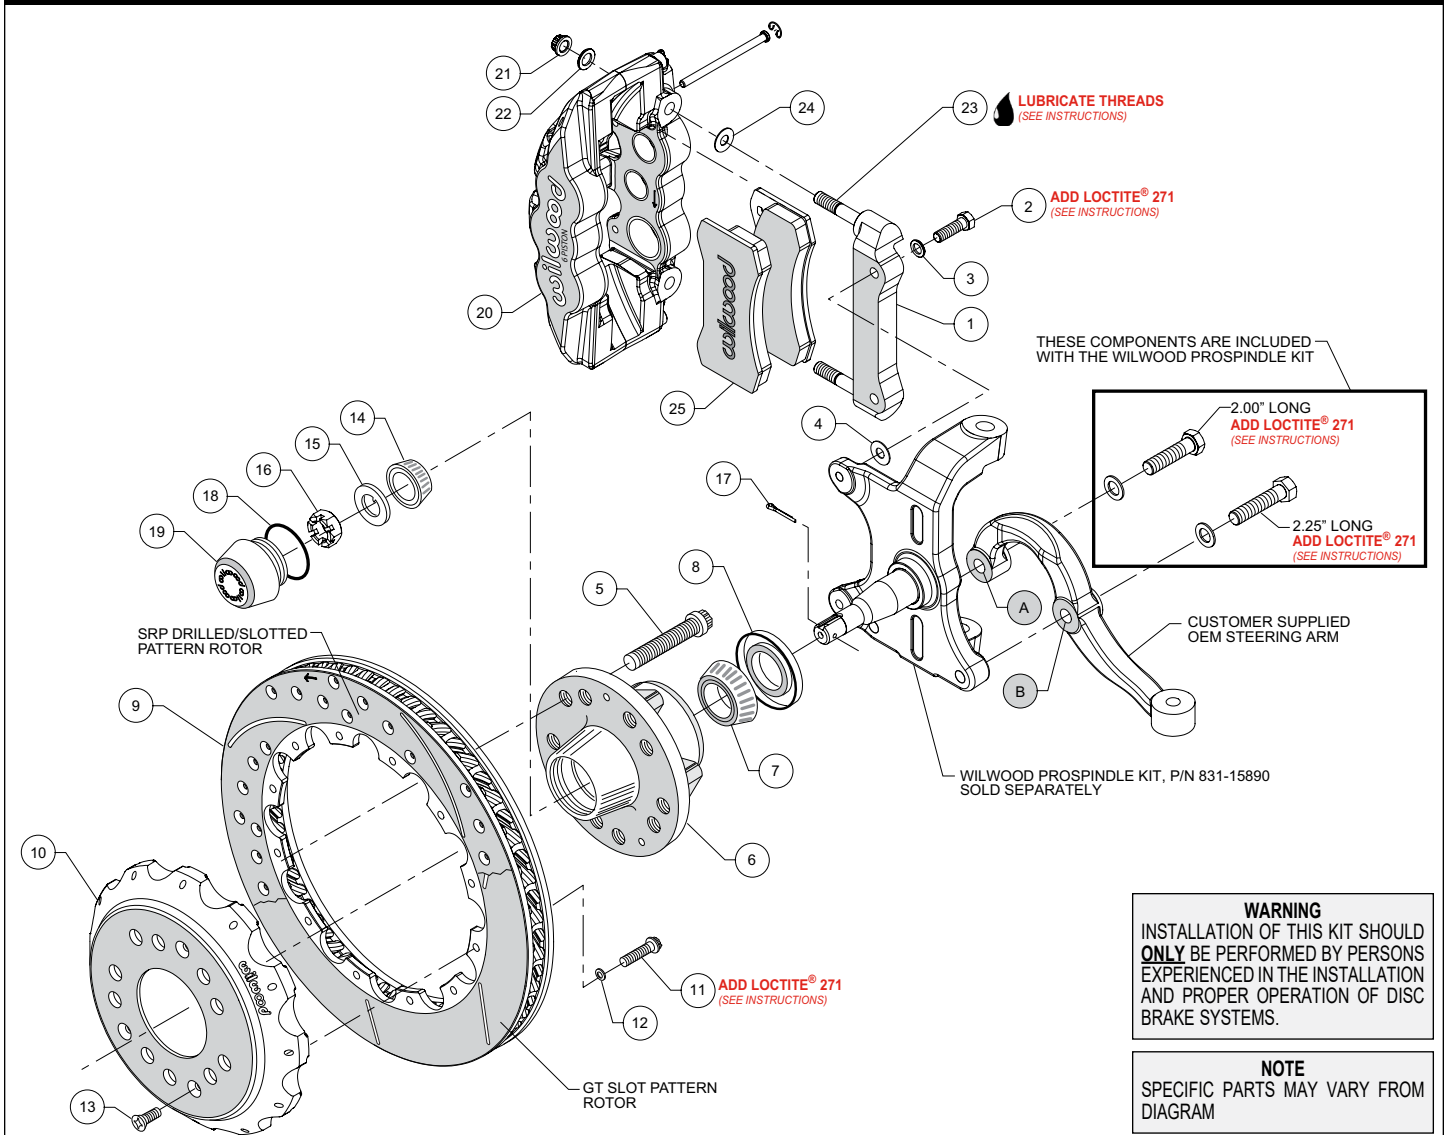
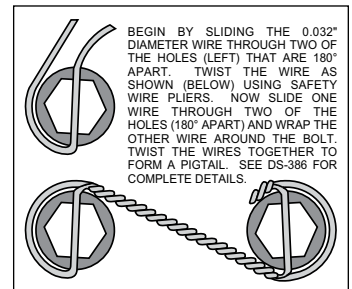

Figure 1. Typical Installation Configuration
Figure 3. Safety Wire Diagram
**NOTE:** Numbers in parenthesis refer to the parts list and Figure 1 on the preceding pages.
•**NOTE:** Wilwood's AFX ProSpindle kit includes bolts and washers to mount the steering arm (customer supplied) to the spindle. The various bolts are identified by length in the following instructions and in Figure 1.
•Orient the steering arm, and identify the hole marked "A" as shown in Figure 1. Attach arm to spindle using 2.00" long bolt and washer (from ProSpindle kit), Figure 1. Finish attaching the steering arm through the hole marked "B", using 2.25" long bolt and washer (from ProSpindle kit), Figure 1. Temporarily tighten the mounting bolts. **NOTE:** The steering arm must fit squarely against the mounting points on the spindle. Inspect for interference from casting irregularities, machining ridges, burrs, etc. Remove bolts one at a time, apply red *Loctite*® 271 to threads, and torque to 77 ft-lb.
•The caliper mount bracket (1) should initially be installed with clean, dry threads on the mounting bolts. Orient the bracket as shown in Figure 1, and install using bolts (2) and washers (3). Initially place one .035" thick shim (4) on each bolt between the bracket and spindle, Figure 1 and Photo 1. Temporarily tighten the mounting bolts. **NOTE:** The bracket must fit squarely against the mounting points on the spindle. Inspect for interference from casting irregularities, machining ridges, burrs, etc. Later, after the caliper alignment has been checked, the mount bolts will be secured using red *Loctite*® 271.
•Install wheel studs (5) into the hub (6), Photo 2. Torque to 77 ft-lb. **NOTE:** There are two five lug patterns in the hub (5 x 4.50 and 5 x 4.75). Ensure the correct hub stud pattern is being used to fit the wheel application.
•Pack the large inner bearing cone (7) with high temperature disc brake bearing grease (available from your local auto parts store) and install into the backside of the hub (6), Photo 3.
•Install the grease seal (8) by pressing into the backside of the hub (6), flush with the end of the hub, Photo 3.
•Pack the small outer bearing cone (14) with high temperature disc brake bearing grease and install into front of hub (6). Slide the hub assembly onto the spindle. Secure using spindle washer (15) and spindle nut (16), Photo 4. Bearing adjustment: Tighten the nut while turning the hub. When there is a slight bind on the bearings, they are seated correctly. Back the nut off about 1/6 to 1/4 of a turn, or sufficiently to allow .001" to .007" end play. **WARNING:** Failure to back off adjusting nut could cause bearing to run hot and be damaged, which could cause the wheel to lock or come off. Install a new cotter pin (17).
•Screw dust cap (19) into hub (6). Friction created by the o-ring (18) on the dust cap keeps it from unscrewing. **NOTE:** The O.D. of the existing OEM spindle washer may be larger than the I.D. of the dust cap not allowing it to seat against the hub face. Therefore, use the spindle washer (15) supplied with the kit instead of the OEM washer.
•Orient the rotor (9) and the hat (10) as shown in Figure 1 and Photo 5. Attach rotor to hat using bolts (11) and washers (12). Apply red *Loctite*® 271 to the bolt threads and torque to 155 **in-lb** using a criss-cross pattern. For an added measure of security, the bolts may be safety wired using standard 0.032 inch diameter stainless steel safety wire as shown in Figure 3. Refer to Wilwood's data sheet DS-386 (available at [www.wilwood.com/Pdf/DataSheets/ds386.pdf](http://www.wilwood.com/Pdf/DataSheets/ds386.pdf)) for complete safety wire installation instructions.
•Slide the hat/rotor assembly (10 and 9) onto the hub (6) taking care to align the small countersunk holes in the hat with the small threaded holes in the hub. **NOTE:** *The hat must fit flush against the hub face or excessive rotor run out may result.* Install three flat head screws (13) through the small holes in the hat, Photo 6, and torque to 85 **in-lb**.
•**NOTE:** *This kit contains distinct right and left hand calipers that must be mounted in a specific direction, as described below.* Lubricate the caliper mounting studs (23) with lightweight oil. Initially place one .030" thick shim (24) on each stud between the caliper and the bracket, as shown in Figure 1 and Photo 7. Mount the caliper (20) onto the bracket (1) using lock nuts (21) and washers (22), Figure 1. Temporarily tighten the lock nuts. Ensure that the caliper is mounted so the largest pistons are at the rotor exit end of the caliper, in relation to the direction of the rotor. View the rotor through the top opening of the caliper. The rotor should be centered in the caliper, Photo 8. If not, adjust by adding or subtracting shims (4) between the bracket and the spindle. Always use the same amount of shims on each of the two mounting bolts. Once the caliper alignment is correct, remove the bracket mounting bolts (2) one at a time, apply red *Loctite*® 271 to the threads, and torque to 40 ft-lbs.
•Remove the caliper (20), then remove the two pad retaining pins from the caliper by carefully popping out the pin retaining clips and sliding out the pins. Insert the brake pads (25) into the caliper from the bottom, Figure 1 and Photo 9. With the friction material facing the rotor, secure the brake pads in place with the pad retaining pins and clips, Photo 10. Reinstall the caliper onto the caliper mounting bracket and temporarily tighten the lock nuts. Check that the top of the brake pad is flush with the outside diameter of the rotor, Photo 11. If not, adjust by adding or subtracting shims (24) between the caliper and the bracket. After the caliper pad height is set, torque the caliper lock nuts (21) to 47 ft-lb.